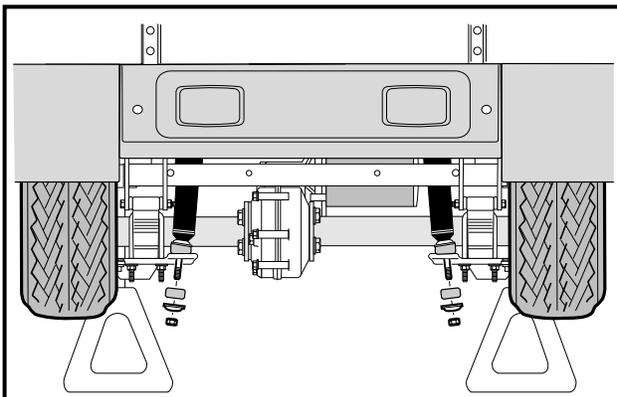
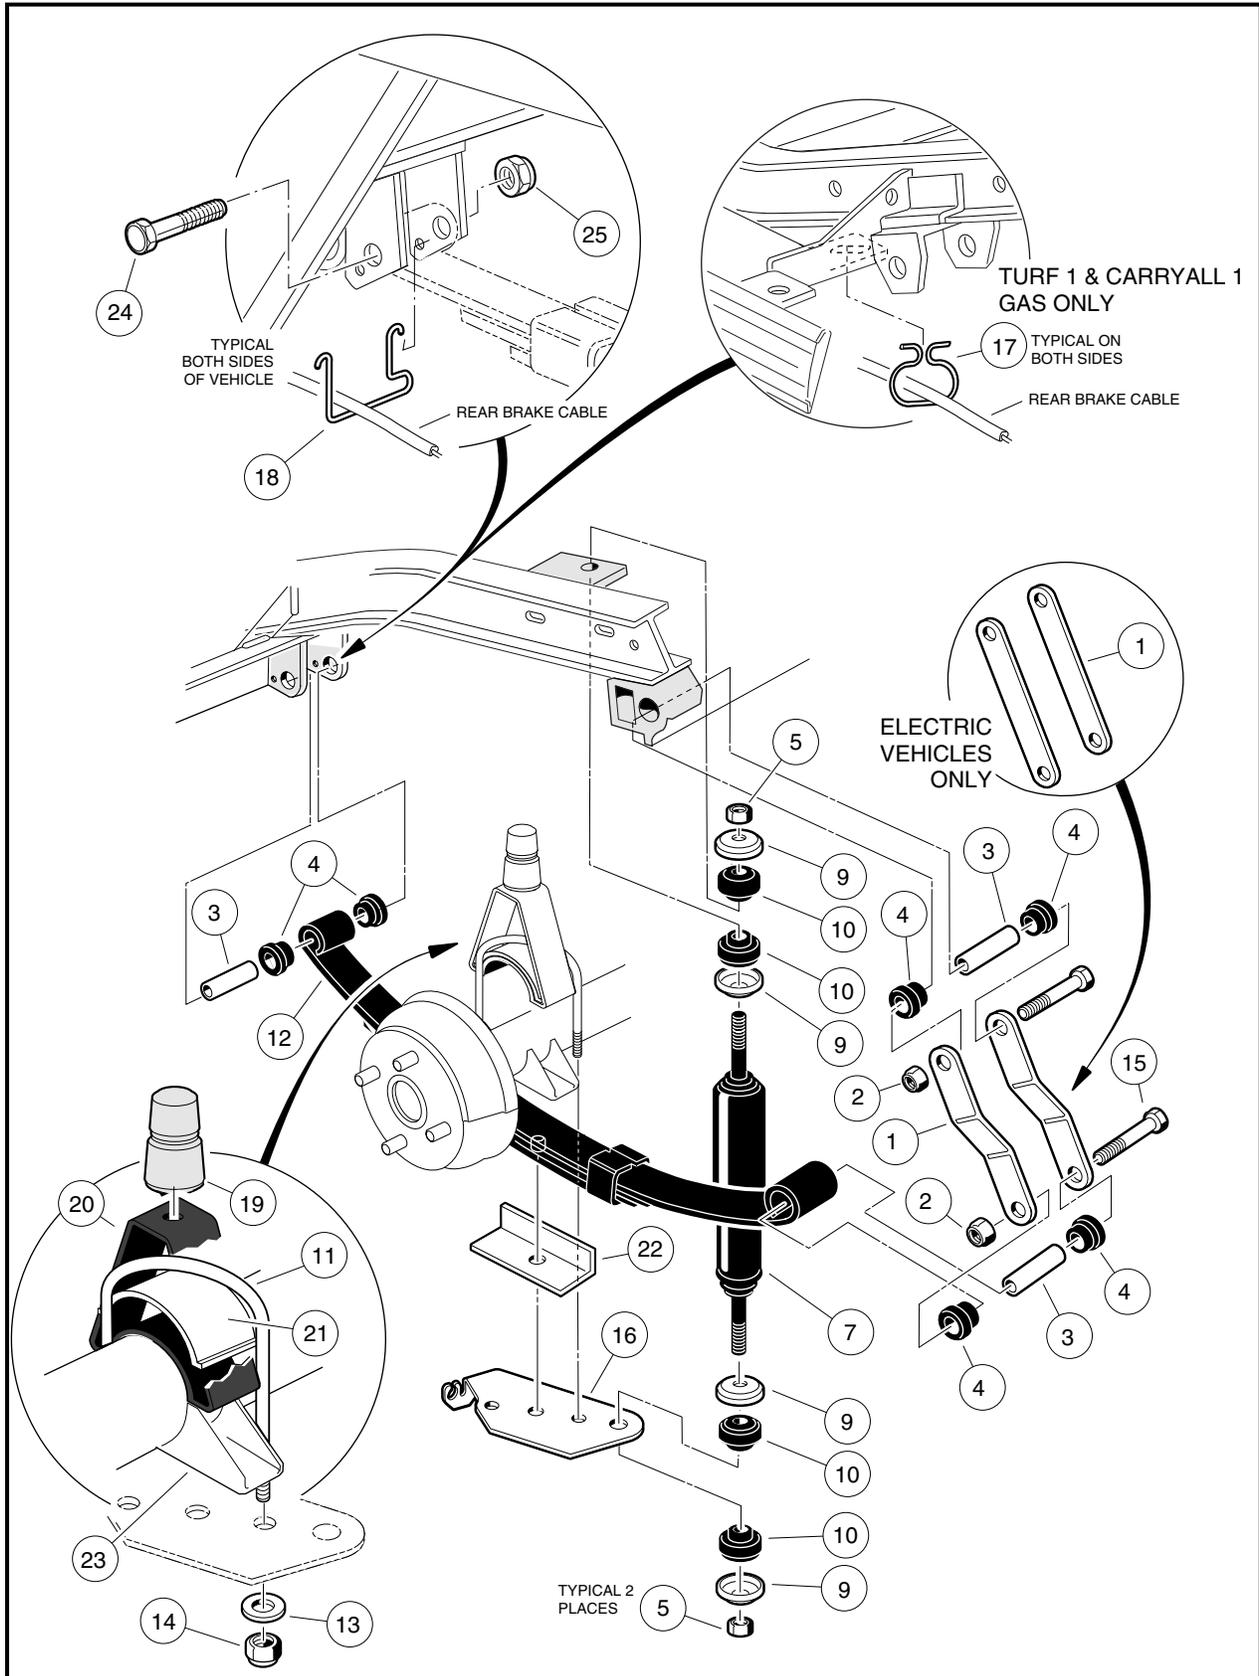
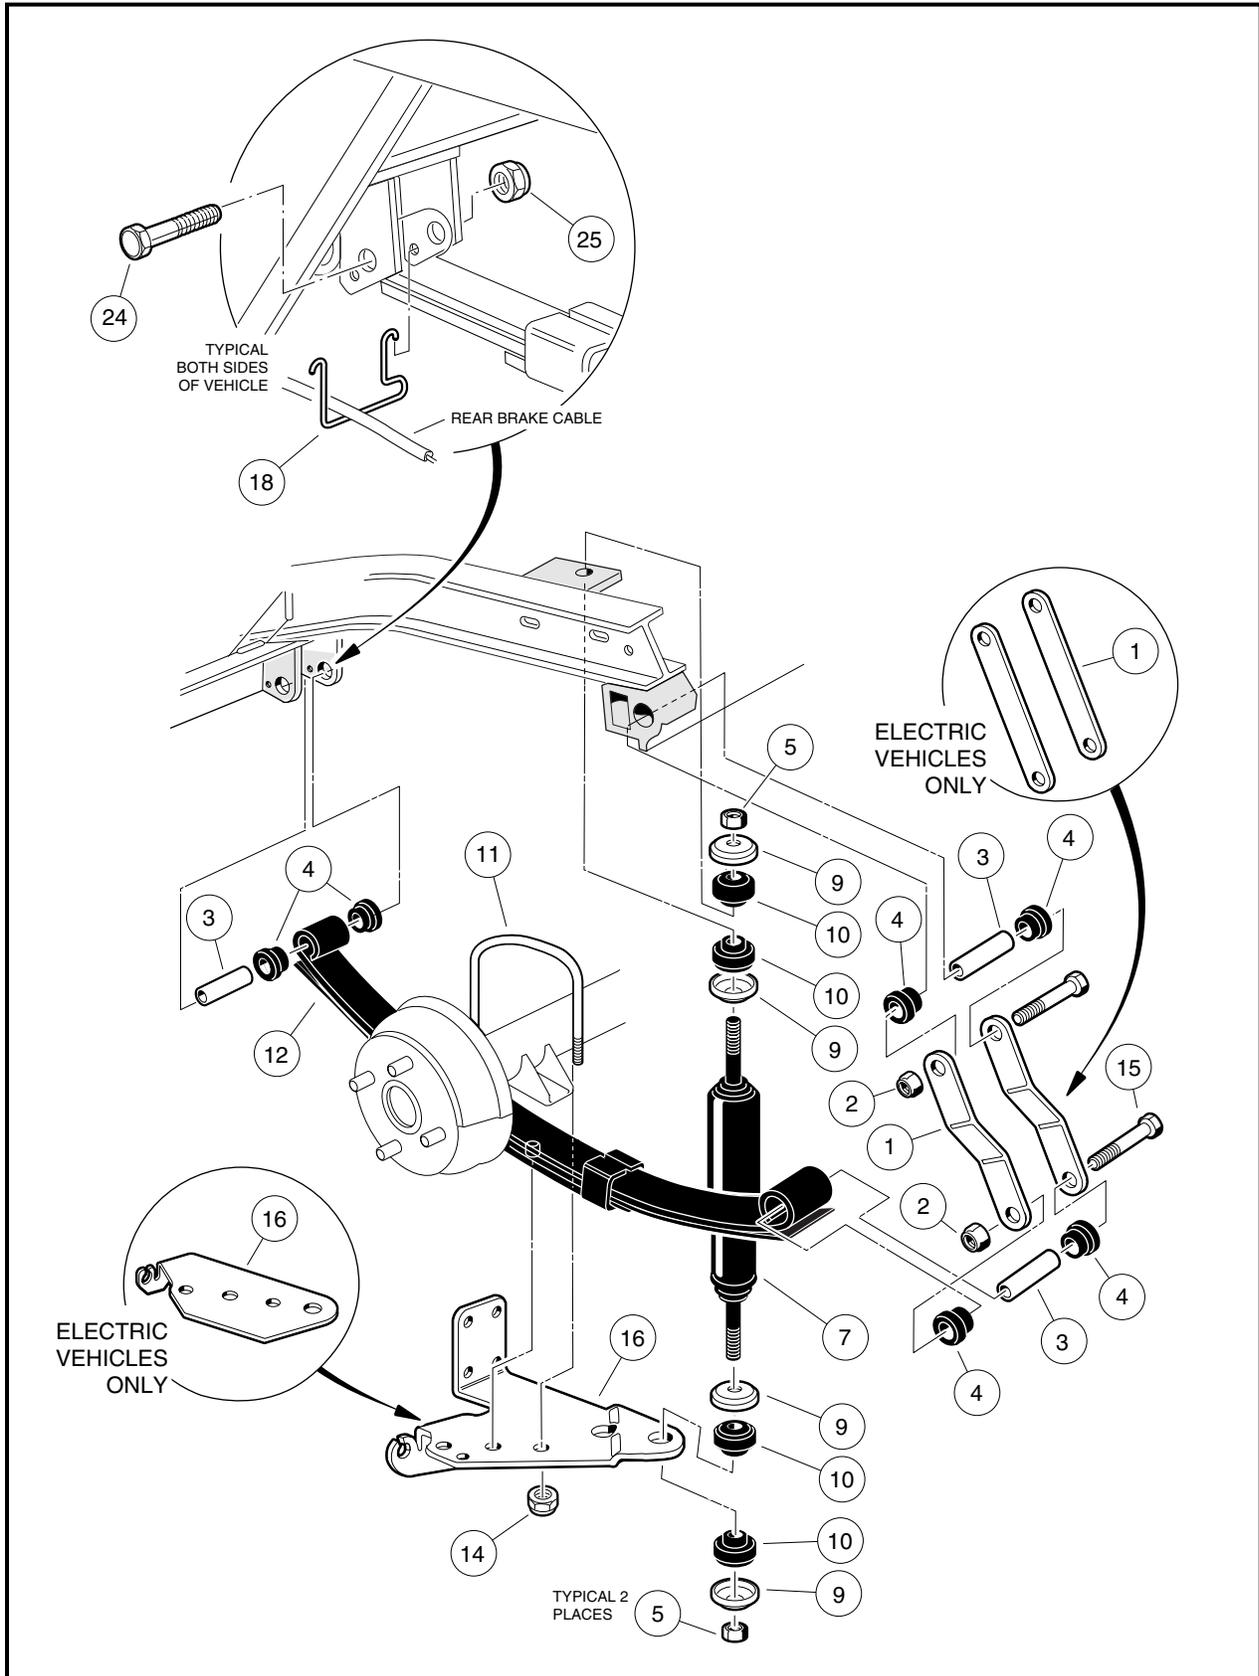

Figure 9-1 Remove Shock Absorbers
Figure 9-3 Rear Suspension – Turf 1 and Carryall 1 Vehicles
Figure 9-4 Rear Suspension – All Turf and Carryall Vehicles Except Turf 1 and Carryall 1
1. Check shock absorbers (7) for damage and fluid leakage around the lower housing of the shock absorber body. Replace damaged or leaking shock absorbers (**Figure 9-3, Page 9-4** or **Figure 9-4, Page 9-5**).
2. To remove a shock absorber (7), remove the nut (5), cup washer (9), and rubber bushing (10) from the upper shock absorber stem.
3. Remove lower mounting hardware (5, 9 and 10) on shock absorber lower mount (**Figure 9-3, Page 9-4** or **Figure 9-4, Page 9-5**). See also **Figure 9-1, Page 9-1**.
2. On the upper shock absorber mount, tighten nut (5) until rubber bushing (10) expands to size of cup washer (9) (**Figure 9-3, Page 9-4** or **Figure 9-4, Page 9-5**).
3. On the lower shock absorber mount, install mounting hardware. Tighten the nut (5) until the rubber bushing (10) expands to the same diameter as the cup washer.
NOTE: Turf 1 and Carryall 1 vehicles are equipped with jounce bumpers (**Figure 9-3, Page 9-4**).
5. Remove lower nut (5), cup washer (9), and rubber bushing (10) from shock absorber (7) (**Figure 9-3, Page 9-4 or Figure 9-4, Page 9-5**).
- 6.1. Remove the lock nuts (14) and flat washers (13) (if present) attaching the U-bolt (11) to the shock mount bracket (16). Remove jounce bumper mount (20) and spacer (21) (**Figure 9-3, Page 9-4**).
- 6.2. Allow shock mount bracket (16) to rotate downward and remove spring retainer (22). Do not disconnect brake cable from bracket (**Figure 9-3, Page 9-4**).
7. **All Turf and Carryall vehicles except Turf 1 and Carryall 1:** Remove the lock nuts (14) attaching the U-bolt (11) to the shock mount bracket (16). Do not disconnect brake cable from bracket (**Figure 9-4, Page 9-5**).
8. Raise axle with floor jack until axle saddle (23) is 1 inch (2.5 cm) above spring (**Figure 9-3, Page 9-4**).
9. Remove bolt (15) and lock nut (2) attaching the leaf spring (12) to the rear shackle (1) (**Figure 9-3, Page 9-4 or Figure 9-4, Page 9-5**).
10. Allow rear of leaf spring (12) to rest on the ground and remove the bolt (24) and lock nut (25) attaching the front of the spring to the vehicle frame (**Figure 9-3, Page 9-4 or Figure 9-4, Page 9-5**). Remove spring from vehicle.
11. Inspect the rubber bushings (4) and steel sleeves (3) in the spring eyes and replace them if they are worn or damaged (**Figure 9-3, Page 9-4 or Figure 9-4, Page 9-5**).
1. Install rubber bushings (4) and steel sleeves (3) into leaf spring eyes if bushings were removed (**Figure 9-3, Page 9-4 or Figure 9-4, Page 9-5**).
2. Place front of leaf spring (12) into vehicle frame and insert bolt (24) through frame and leaf spring eye. Install lock nut (25) and tighten to 15 ft-lb (20.3 N·m).
3. Align the other end of leaf spring with the holes in the spring shackles (1). Insert bolt (15) through leaf spring eye and shackles. Install lock nut (2) and tighten to 15 ft-lb (20.3 N·m). Lower transaxle onto leaf spring (12). **See following CAUTION.**
- When placing transaxle on spring, be sure to position locating bolt on the spring in the locating hole in the transaxle saddle (23) (**Figure 9-3, Page 9-4**).
- 4.1. Install spring retainer (22) and shock mount bracket (16) onto locating bolt at bottom center of leaf-spring (**Figure 9-3, Page 9-4**). See preceding **CAUTION**.
- 4.2. Position jounce bumper mount (20) with spacer (21) onto axle tube. Install U-bolt (11), flat washers (13) (if present), and lock nuts (14). Tighten U-bolt to 25 ft-lb (34 N·m) (**Figure 9-3, Page 9-4**).
5. All Turf and Carryall vehicles except Turf 1 and Carryall 1: Install shock mount bracket (16) onto locating bolt at bottom center of leaf-spring (**Figure 9-4, Page 9-5**). See following **NOTE**.
- 5.1. Install U-bolt (11) and lock nuts (14). Tighten U-bolt to 25 ft-lb (34 N·m) (**Figure 9-4, Page 9-5**).
1. Grip jounce bumper (19) and pull from bumper mount (20) (**Figure 9-3, Page 9-4**).
1. Insert jounce bumper (19) into bumper mount (20) (**Figure 9-3, Page 9-4**). Make sure the entire circumference of bumper is seated firmly in mounting hole.